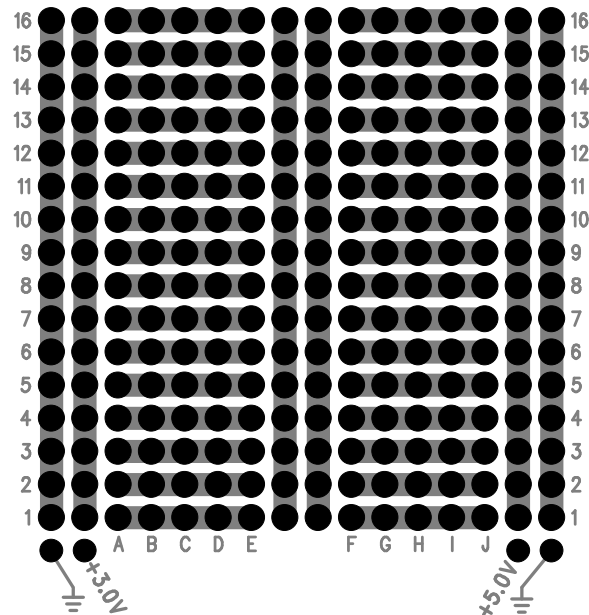

Figure 2-3 Prototype Area Hole Pattern
- Figure 2-3 Prototype Area Hole Pattern 8
At the center of the More Board is a 16 x 16 0.1" grid prototyping area. The plated-through holes are arranged like a standard breadboard with bus strips and terminal strips. Six bus strips run vertically with two on the left, two in the center, and two on the right. These bus strips are electrically connected through the entire column (1 - 16). There are 16 5-pin terminal strips on each side of the center bus strips (A-E and F-J). The 5 pins are electrically connected in each terminal strip. Figure 2-3 shows the prototyping area hole pattern.